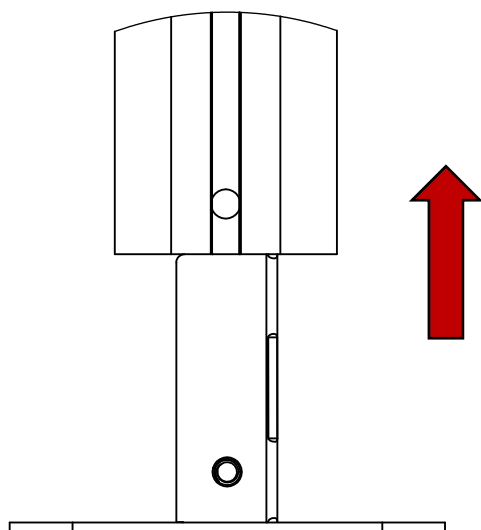
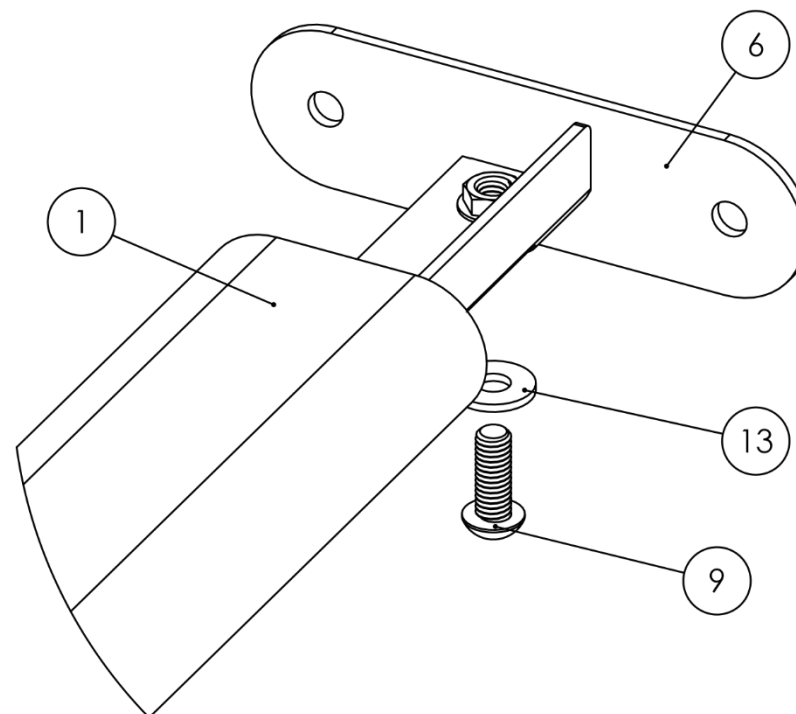

Figure 9
Figure 10
5. **Install the Side Rail Connectors to the Crossbars.** Examine the Side Rail Connectors (Item No. 6) and notice that of the 6 provided, 2 are shorter in size. These smaller ones will require installation within profile 1 – the front Crossbar (Item No. 1). As shown in Figure 9, slide a Side Rail Connector into the end of each Crossbar. Once inserted, match the Crossbar's pre-drilled hole with the Connector's threaded hole. As shown in Figure 10, secure each Side Rail Connector by threading a 1.25" Button Head Cap Screw (Item No. 9) and a Metal Washer (Item No. 13) into these holes.